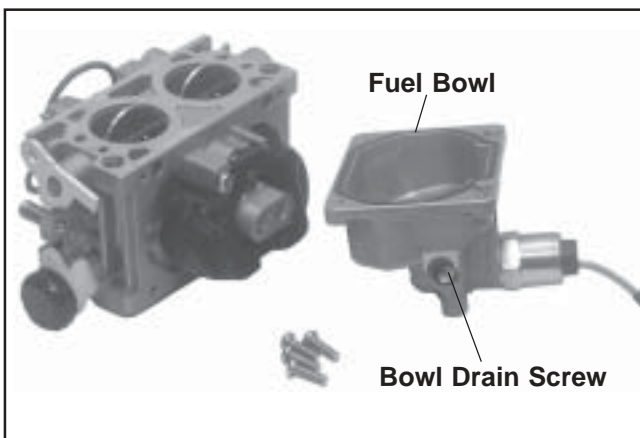

Figure 5-22. Fuel Bowl Removed From Carburetor.
1. Clean the exterior surfaces of dirt or foreign material before disassembling the carburetor. Remove the four mounting screws and separate the fuel bowl from the carburetor. Transfer any remaining fuel into an approved container. Remove and discard the old O-Rings. Fuel can also be drained prior to bowl removal by loosening/removal of the bowl drain screw. See Figure 5-22.